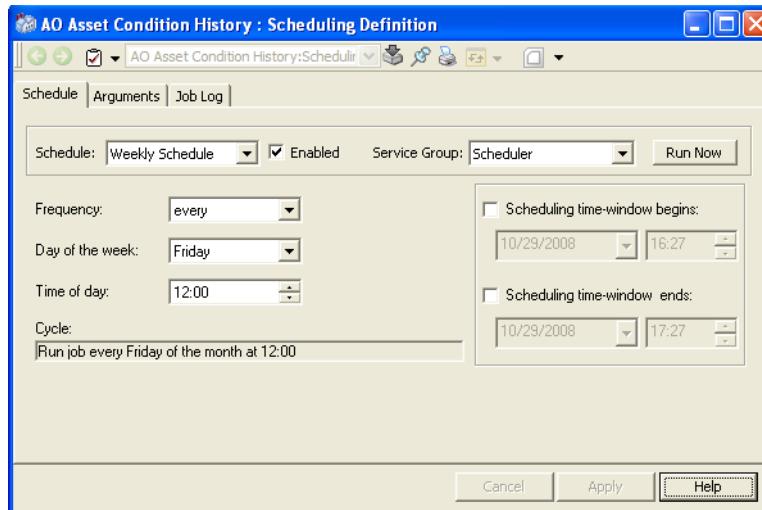

Figure 91. Scheduling Definition
4. Select Scheduling Definition in the Aspect List to display the Scheduling Definition aspect view, with the Schedule tab selected, in the Preview Area as shown in Figure 91.